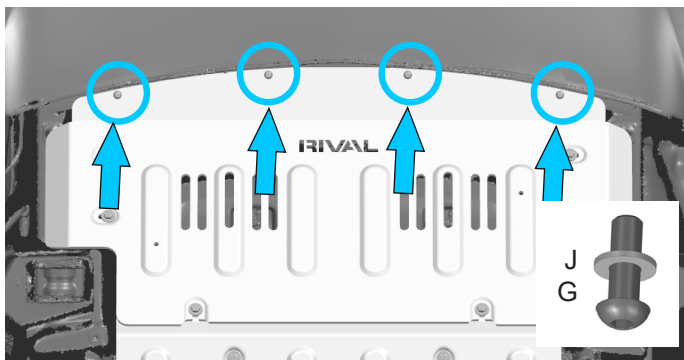

Fig. 11
11. Fix the skid plate 1 (item 1) to the OEM bumper, using bolts 8x25 and wahers M8 (item G, J), as shown in fig.11.